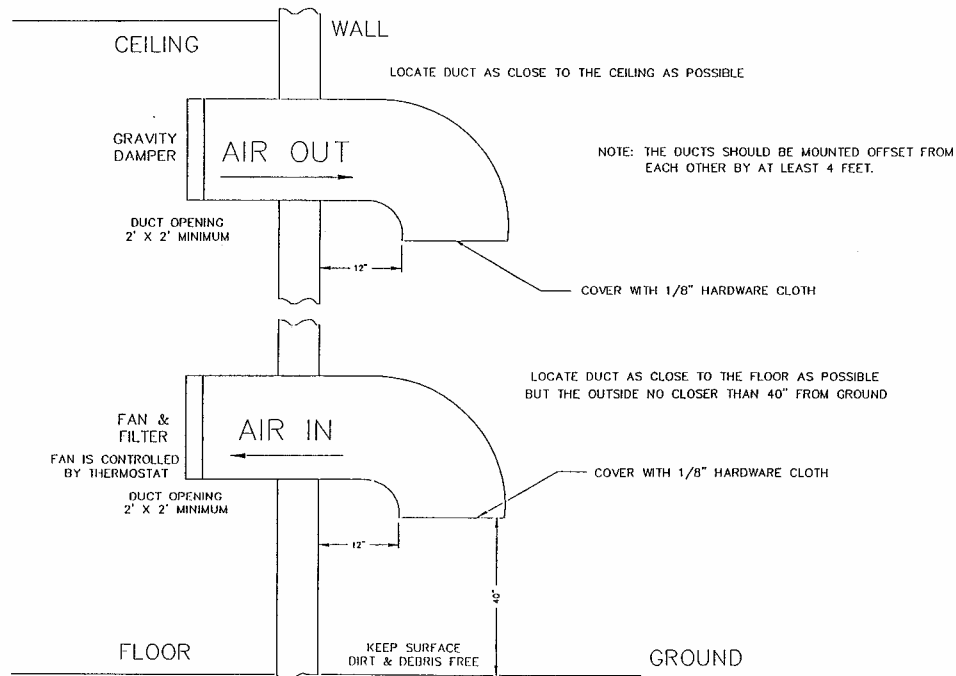

Figure 3-1. 1 kW Minimum Ventilation Configuration
- The information presented in this section is intended to serve only as a general guide and may need to be modified for unusually severe conditions. A combination of air conditioning and ventilation should not be difficult to design (see Figure 3-1).
- System interlocking and thermostat settings should be reviewed with Axcera. As with any equipment installation, it is always good practice to consult the manufacturer when questions arise. Axcera can be contacted at (724) 873-8100